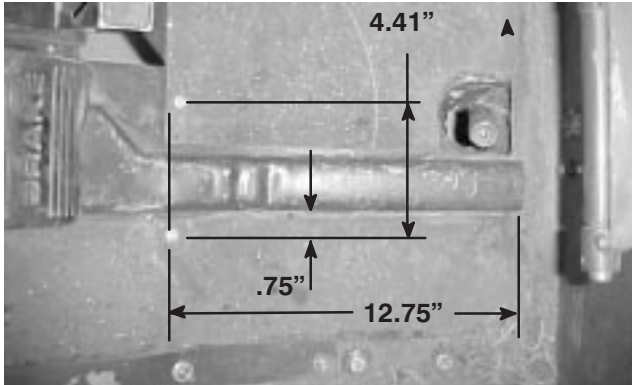

Figure 1
MOUNT HOSE CLAMP (Fig. 1 –2)
1. Using dimensions shown in figure 1, locate, mark and drill (2) .280" dia. holes in traction unit platform. Use caution when drilling as there are hoses and cables under platform.